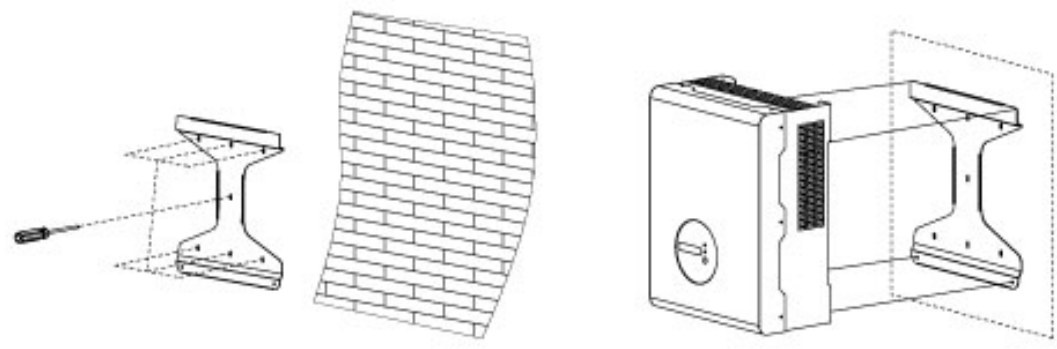

Figure 8 Bracket Installation
Step3: Use the bracket to install the inverter onto the narrow vertical panel (or wall). Put upper-part holes of the inverter onto the bracket, lower part onto the M5 screw rivet of the bracket (See figure 8).